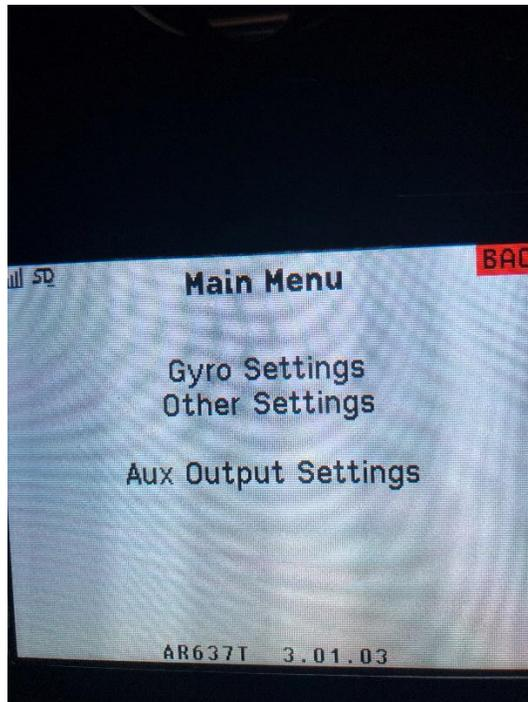

Figure 24.0 Forward Programming Main Menu
1. Navigate to the **Forward Programming** option under the **Function List** and click it. *Figure 24.0* shows what this new screen looks like.